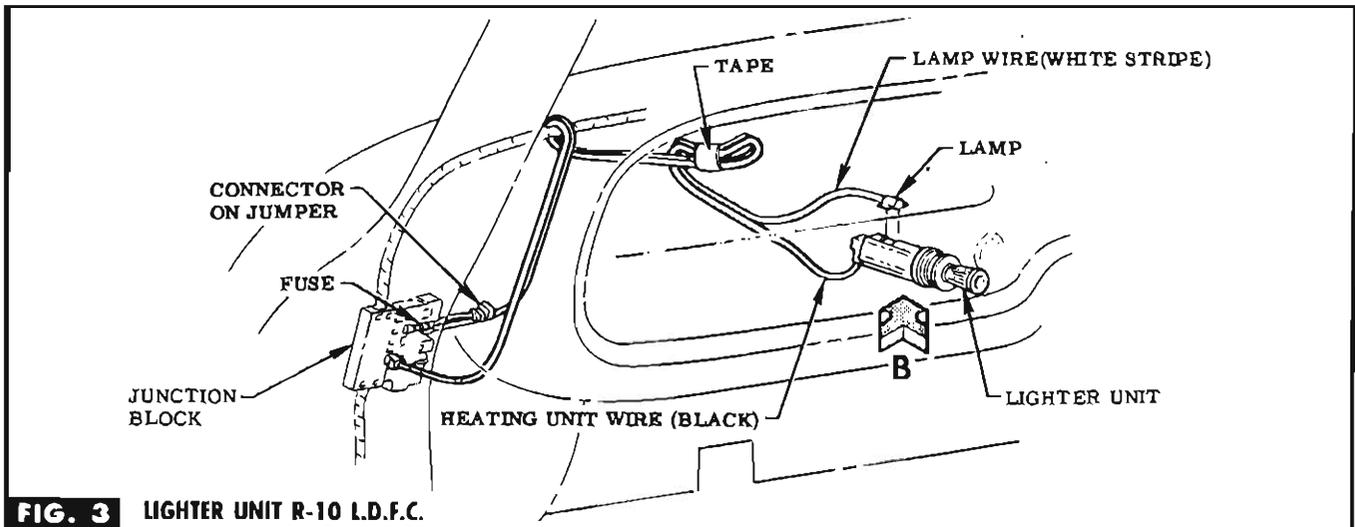

FIG. 3 LIGHTER UNIT R-10 L.D.F.C.
STEP 4a ON R-10 L.D.F.C. ROUTE WIRES TO JUNCTION BLOCK AS SHOWN IN FIG. 3. CONNECT WIRES TO JUNCTION BLOCK & TO RETAINER & HEATING UNIT SAME AS STEP 3a. INSTALL FUSE SAME AS STEP 3a.